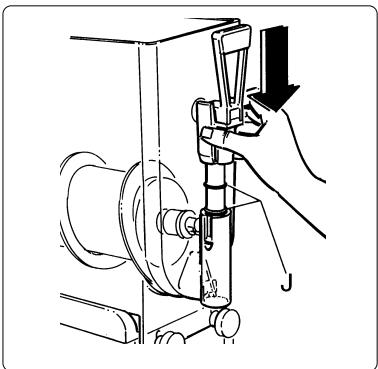

Fig. 18
- h) Re-insert the tap, making sure to spread petroleum jelly on the washers (J) to facilitate sliding the tap in its lodging until completely inserted (see fig. 18).